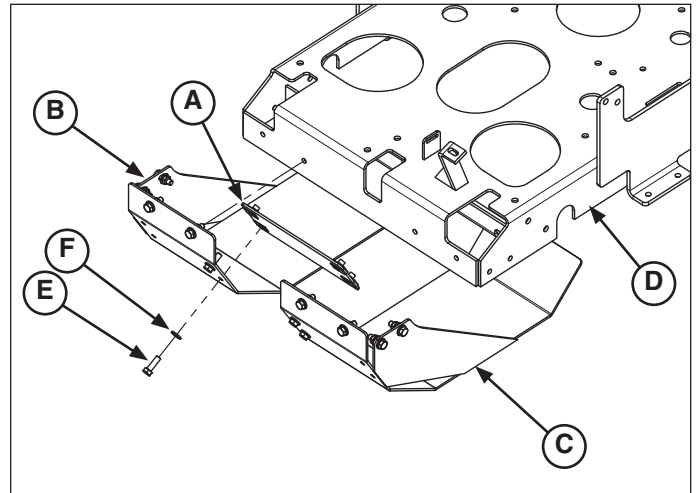

Figure 4. Installing the Rear Guard Plate (Skid plates shown exploded from frame for detail)
6. Install the rear guard plate (A, Figure 4) to the LH skid plate (B) and RH skid plates (C) to the frame (D) as shown in Figure 4. Secure in place using four (4) 5/16-18 X 1" bolts (E) and 5/16 washers (F).